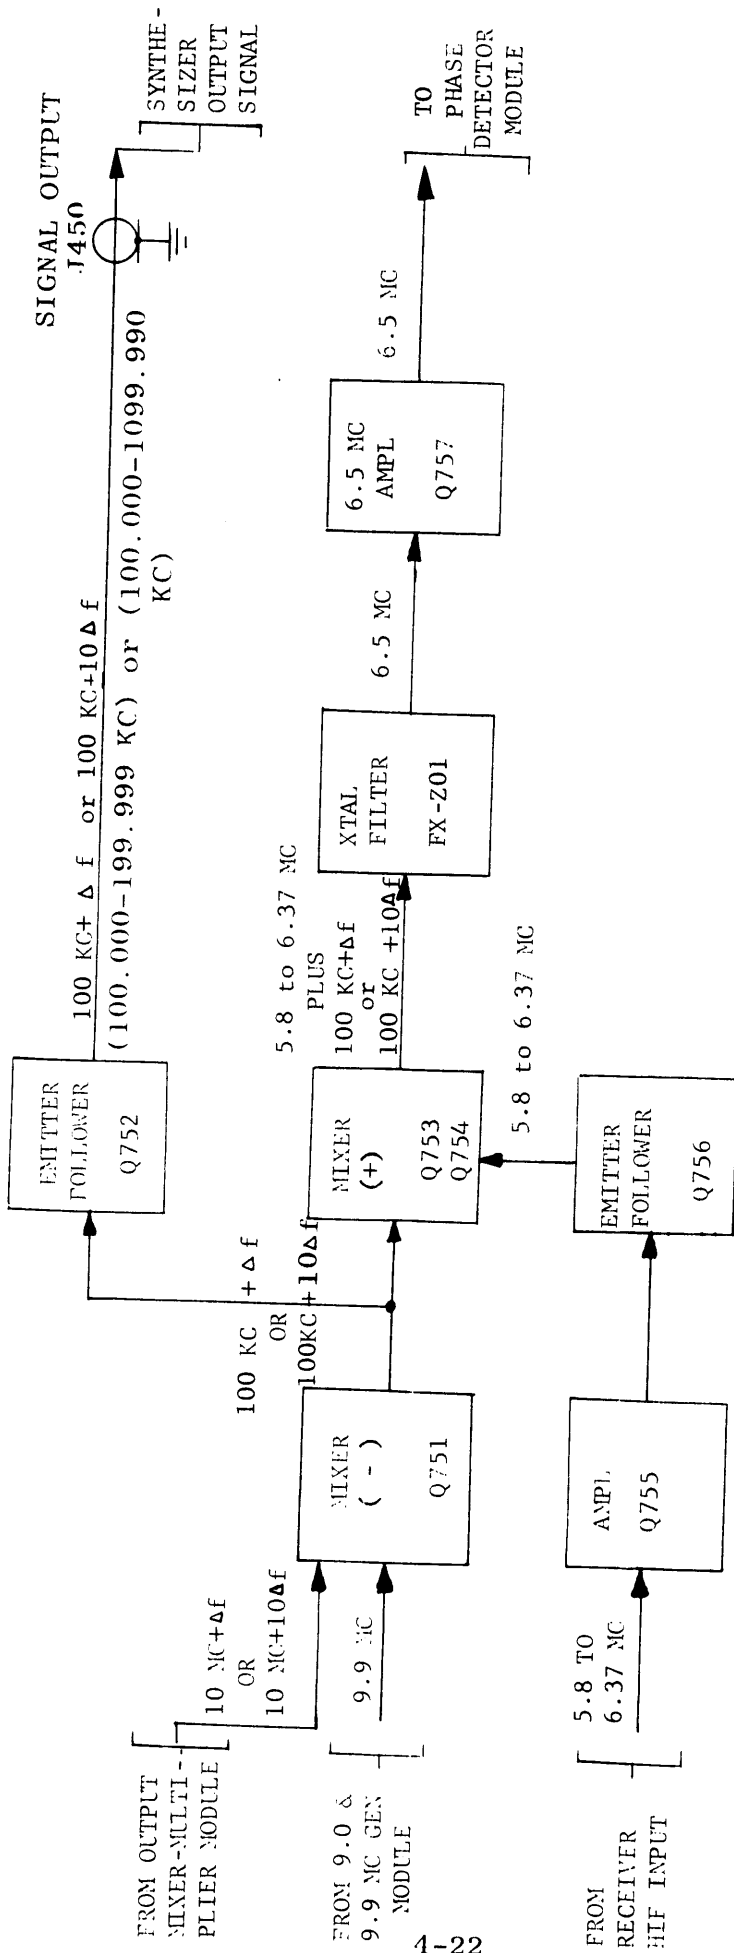

FIGURE 4-11. 6.5 MC IF AND OUTPUT MODULE, FUNCTIONAL BLOCK DIAGRAM
h. 6.5 MEGACYCLE IF AND OUTPUT MODULE. - Refer to figure 4-11. The 6.5 Megacycle I-F and Output Module receives: a 9.9 megacycle signal from the 9.0 and 9.9 Megacycle Generator Module, a 10 megacycle $+\Delta f$ or a 10 megacycle $+10\Delta f$ (depending upon the position of the FREQUENCY MULTIPLIER switch) from the Output Mixer-Multiplier Module, and a signal in the frequency range of 5.8 to 6.37 megacycles from an associated receiver. In turn, the module produces a 6.5 megacycle signal, and sinusoidal output signals within the frequency range of 100.000 to 199.999 kilocycles (100 KC $+\Delta f$) or within the frequency range of 100.000 to 1099.990 kilocycles (100 KC $+10\Delta f$).